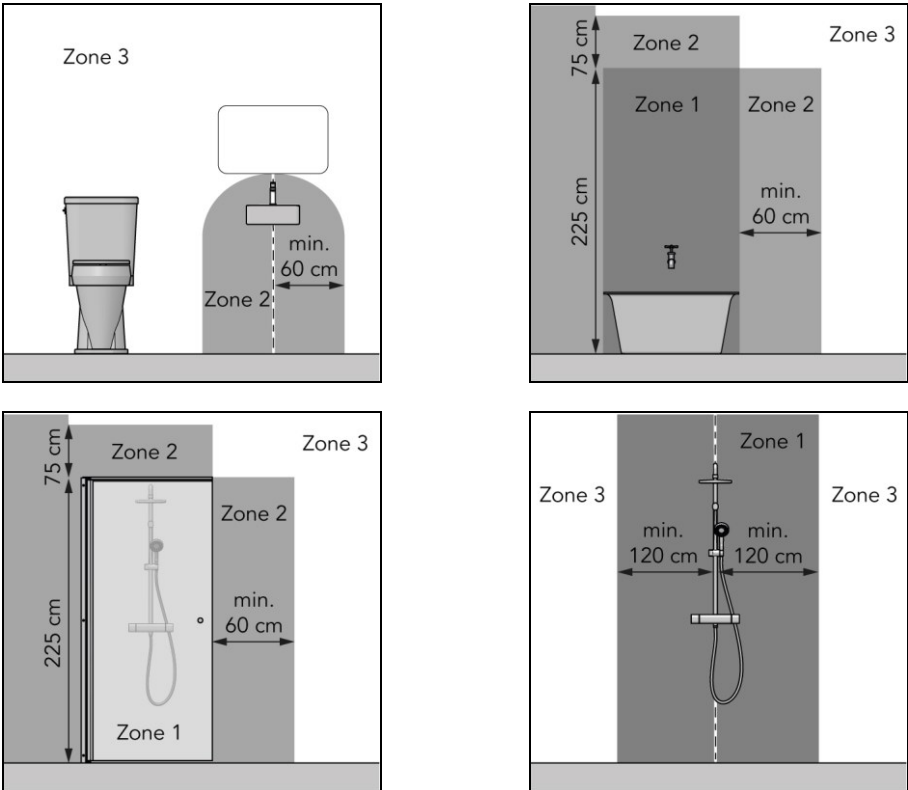
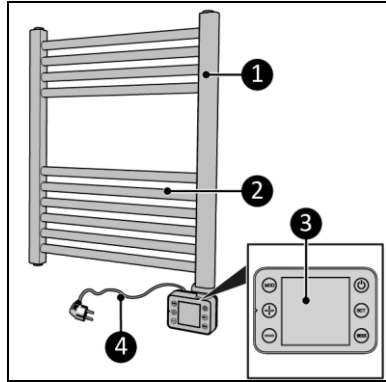

Figure 1
Figure 4
- in zone 3 of a toilet room or bathroom with a bath, shower with screen and shower without screen (Figure 1);
The Sani Bathroom Radiator (Figure 4) is an easy-to-use electric bathroom heater for use only in zone 3 of the bathroom (Figure 1). The device can be programmed on a day and week timer. The device can be used with the Eurom Smart App.